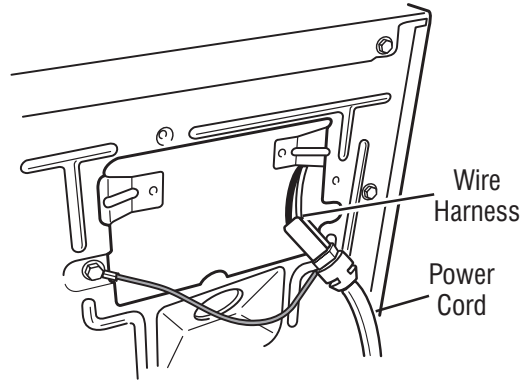
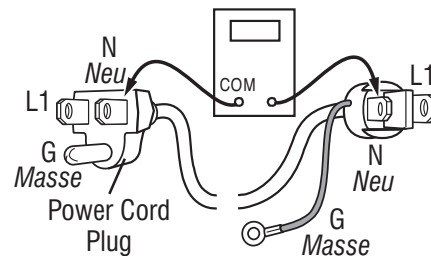

Figure 14 - Power cord-to-wire harness connection for gas dryer.
Figure 15 - Power cord terminals, gas dryer.
3. Check that the power cord is firmly connected to the dryer's wire harness. See figure 14.
5. With an ohmmeter, check for continuity between the neutral (N) terminal of the plug and P8-3 (white wire) on the CCU. The left-hand side of figure 15 shows the position of the neutral terminal (N) on the power cord plug. Also see figure 11, page 9.
- If there is no continuity, disconnect the white wire of the main harness from the power cord at the location illustrated in figure 14. Test the continuity of the power cord neutral wire as illustrated in figure 15. If an open circuit is found, replace the power cord. Otherwise, go to step 6.
- If there is no continuity, check the continuity of the power cord in a similar way to that illustrated in figure 15, but for power cord's L1 wire.